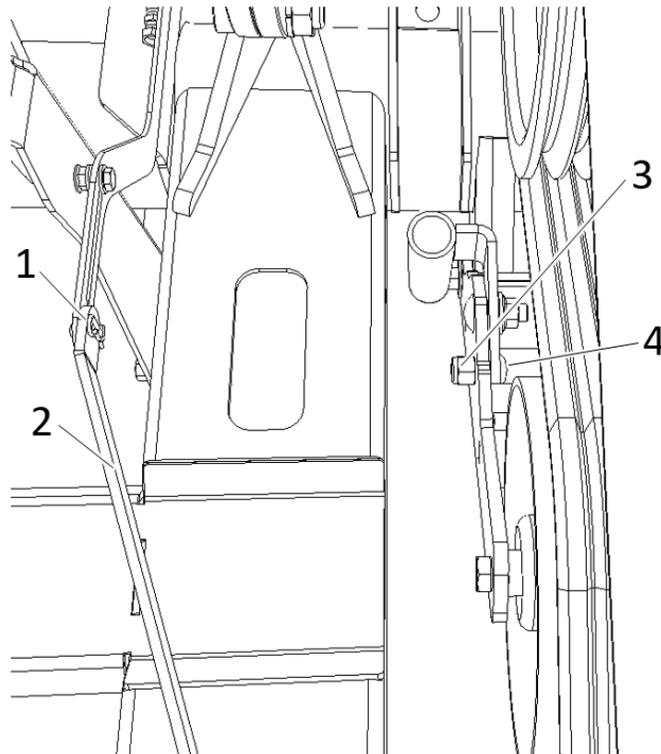

Figure 20 Cylinder lever arm and lock bolt
#### STEP 2 - FIGURE 20
Install the cylinder lock lever (item 2) and insert the locking pin (item 1). Install the tensioner locking bolt (items 3 and 4). (Reverse from Step 2 – Figure 20 Cylinder lever arm and lock bolt).